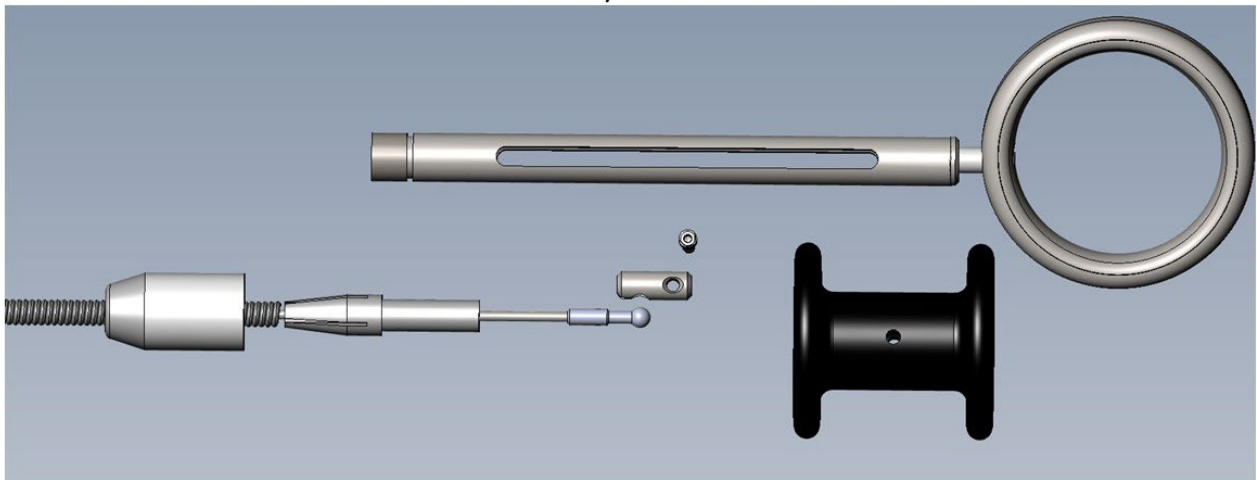
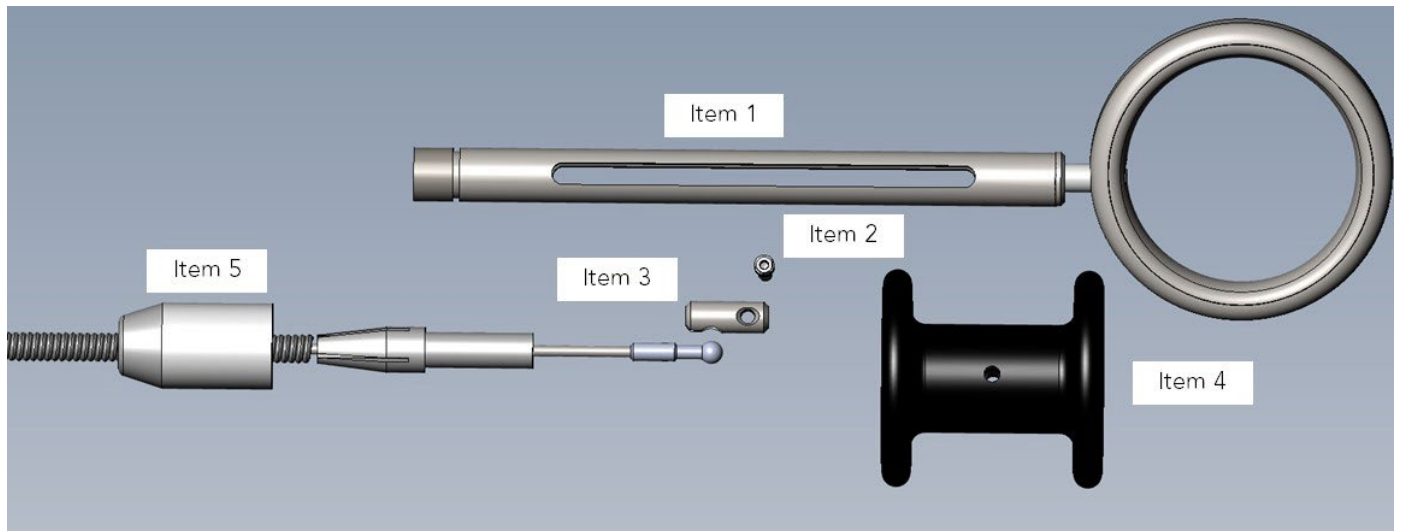

Figure 6 Plunger Handle
Figure 7 Labeled Plunger Item Numbers
- 1) Remove Screw, Item # 2, from Plunger Handle See Figure 6 & Figure 7
- 2) Loosen tension adjuster, Item # 5 Figure 7
- 4) Adjust Tension, Item 5. As needed. See Figure 7